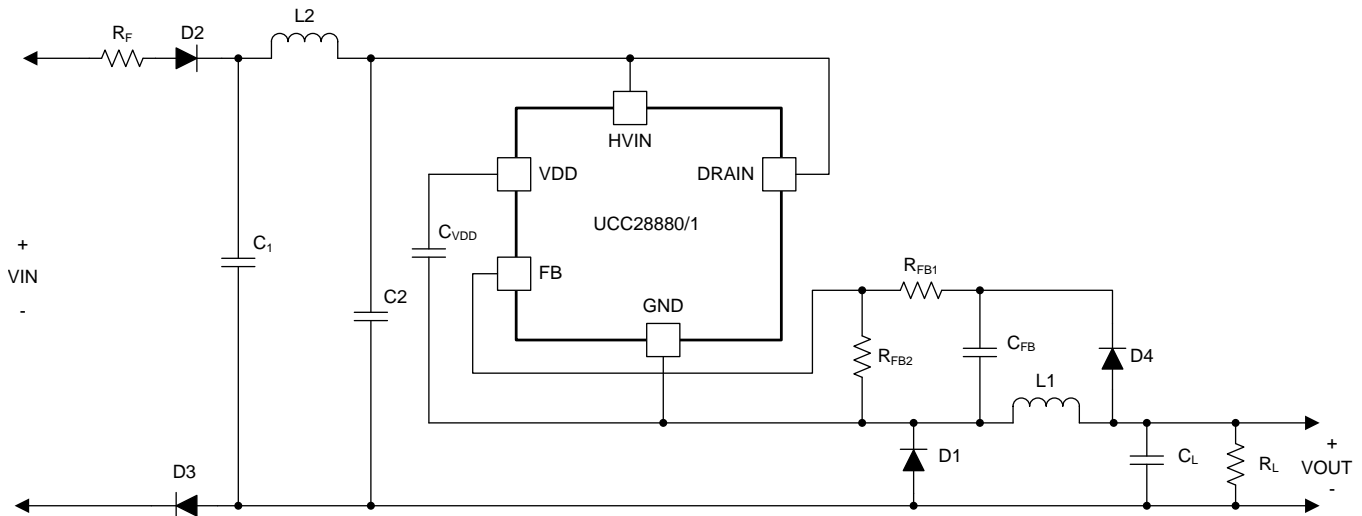

Figure 19. High-Side Buck Converter Schematic
Figure 19 shows a typical application example of a non-isolated power supply, where the UCC28880 is connected in a high-side buck configuration having an output voltage that is positive with respect to the negative high-voltage input (VIN-).
In low-side buck converter the output voltage is always sensed by the FB pin and UCC28880 internal controller can turn on the MOSFET on VOUT. In high-side buck converter applications the information on the output voltage value is stored on C_{FB} capacitor. This information is not updated in real time. The information on C_{FB} capacitor is updated just after MOSFET turn-off event. When the MOSFET is turned off, the inductor current forces the freewheeling diode (D1 in Figure 19) to turn on and the GND pin of UCC28880 goes negative at $-V_{d1}$ (where V_{d1} is the forward drop voltage of diode D1) with respect to the negative terminal of bulk capacitor ($C1$ in Figure 19). When D1 is on, through diode D4, the C_{FB} capacitor is charged at $V_{OUT} - V_{d4} + V_{d1}$. Set the output voltage regulation level using Equation 18.
- R_{FB1} , R_{FB2} is the resistance of the resistor divider connected with FB pin (see Figure 19)